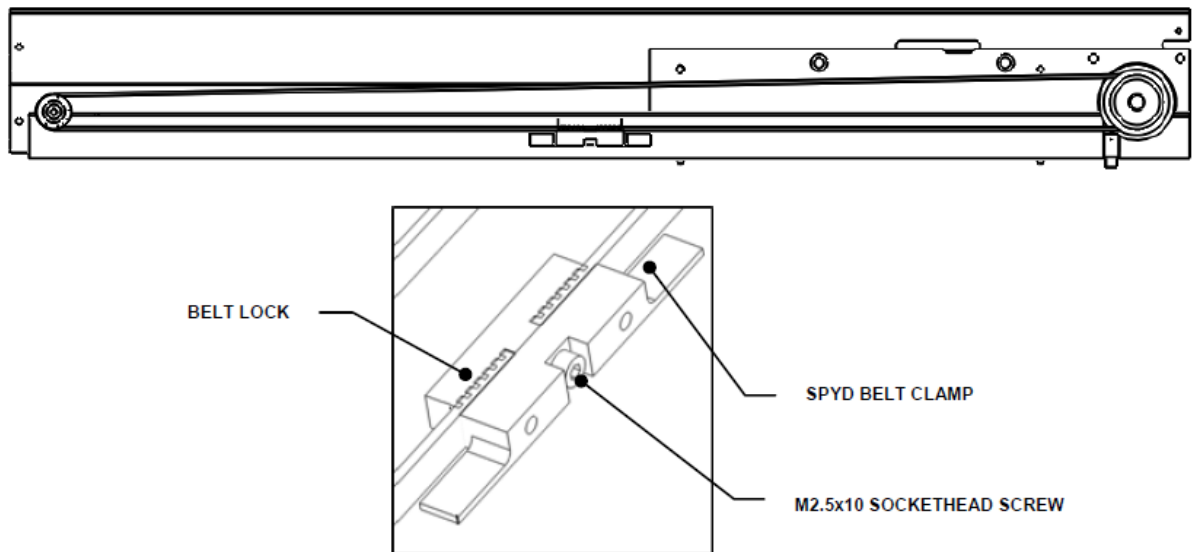

Figure T-11: Unclamping the Belt and Un-looping the Belt
4. Unclamp the Remove the Sample Pipettor Y Drive Belt Clamp and un-loop the belt from the pulleys (Figure T-11).
1. Cut a length 1074mm of Timing Belt GT2 and form a loop around the two pulleys. Clamp ends of the belt with a Sample Pipettor Y Drive Belt Clamp, a Belt Lock and an M2.5x10 Socket Head Cap Screw) using Loctite 222 (Figure T-11). Make sure 6 teeth on each end of the belts are trapped by the Belt Lock and that the Belt Clamp and the Belt Lock are parallel and the Belt is flush with them.